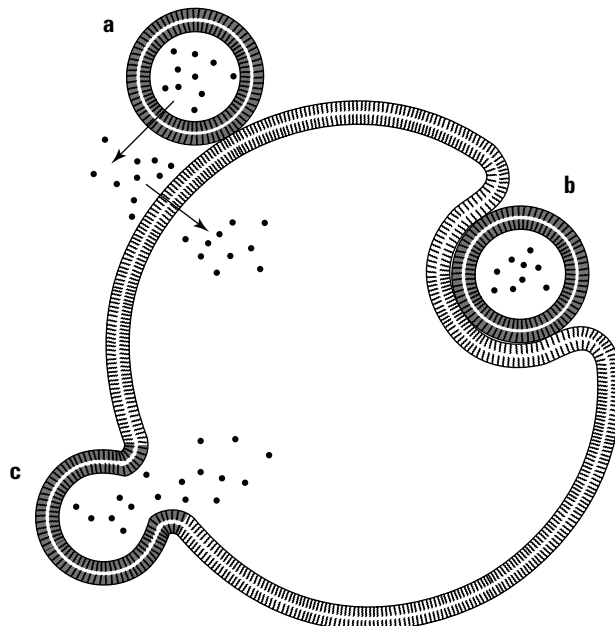

Figure 11-8:
- ✓ Liposomes may stick to the surface of the cell walls, slowly diffusing the drugs into the cell. (See the part labeled “a” in Figure 11-8.) This method is good for consistent, time-released drugs — varying the structure of the liposome can vary its willingness to stick, vary the drug’s release time, or both. A controlled release can respond to the needs of the body — a rise in the level of cholesterol or sugar (for example) can disrupt the surface of the vesicle, delivering the drug appropriately.
- ✓ Endocytosis (shown in the “b” part of Figure 11-8) is the passage of the vesicle into the cell, after which the vesicle breaks down and the drug molecules are delivered.
- ✓ The “c” part of Figure 11-8 shows an uncommon method: The liposome fuses with the cell wall and delivers its contents into the cell.